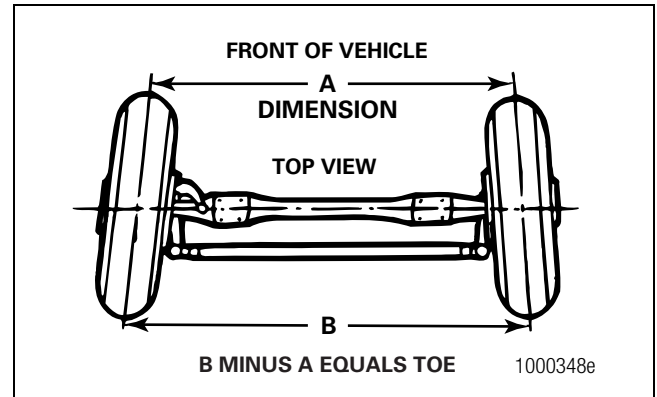

Figure 7.14
8. To obtain the toe measurement, subtract the distance reading between the front of the tires from the distance reading between the back of the tires. Figure 7.14.